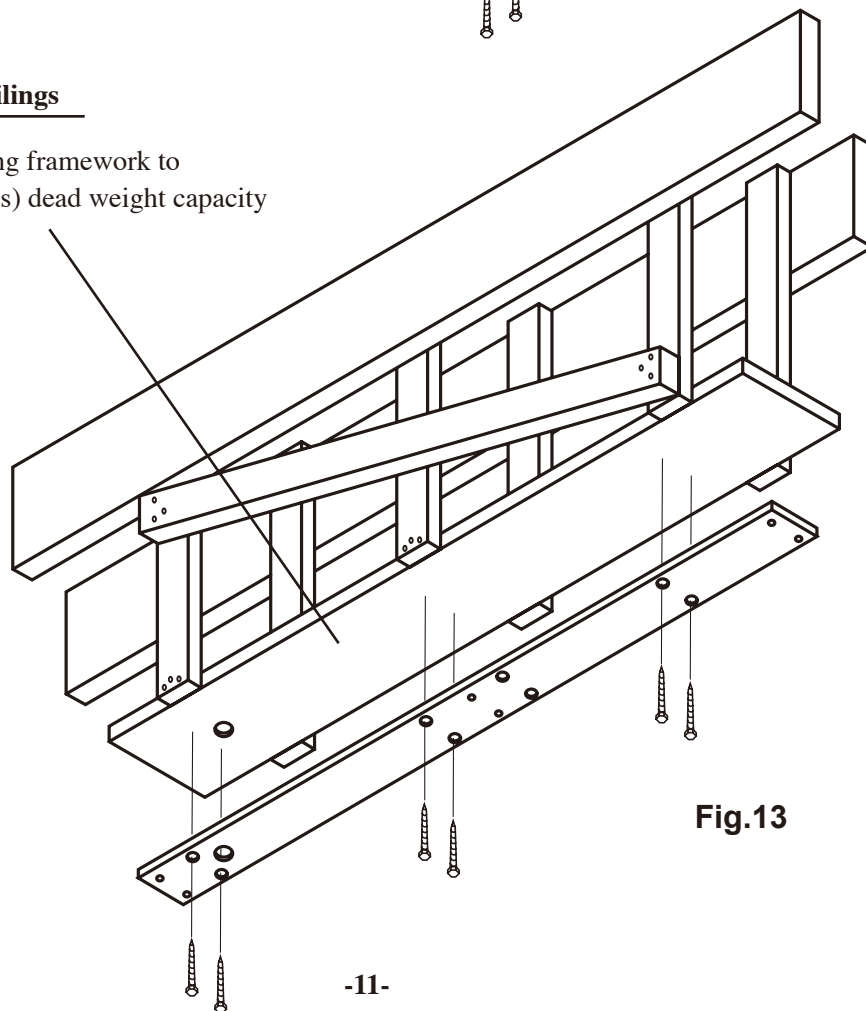

Fig.13
C) For suspended ceilings, appropriate rigid structure must be attached to the ceiling framework to provide 90kg (200 lbs) dead weight capacity. (See Fig.13)